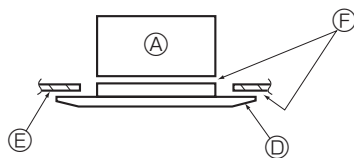

Fig. 5-8
- \* Make sure that there are no gaps between the main unit and the grille or the grille and the ceiling. (Fig. 5-8)